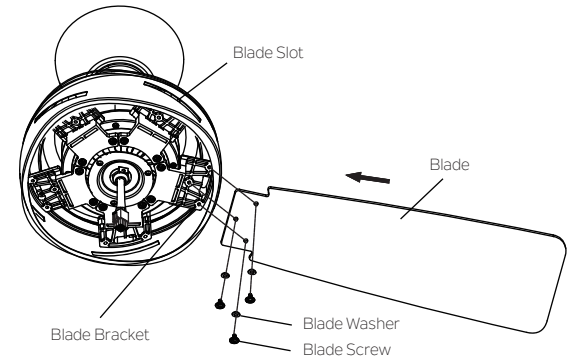

Fig. 16
Step 1. Slide blades through the blade slots in motor housing and attach to motor brackets using the screws and blade plates. Make sure the screws securing the blade to blade bracket are tight and are properly seated. (Fig. 16)